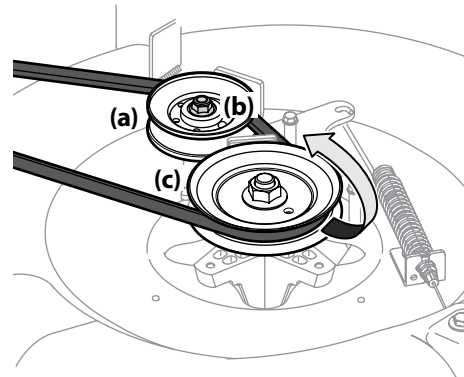

Figure 4-12
- Loosen the idler pulley (24" decks only) (a) by loosening the flange lock nut (b) that secures it, enough to allow clearance for the belt to move past it and off. Remove the belt by working it off of the deck drive pulley (c) and idler pulley (a). See Figure 4-12.